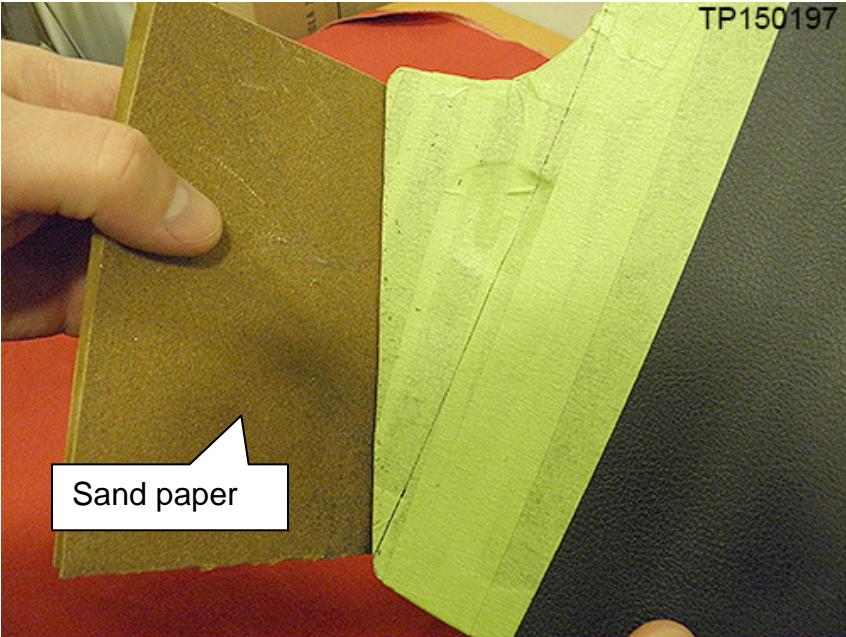

Figure 13
14. Lightly sand the rough edges where the cuts were made with fine sand paper to provide a smooth and finished look (Figure 13).